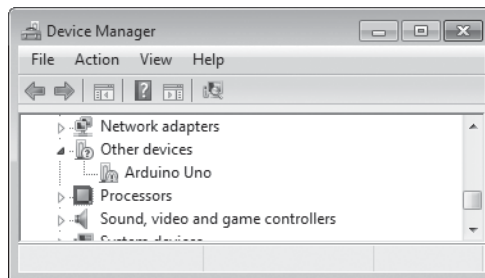

Figure 1-19: The Device Manager
2. Navigate to the Windows Control Panel. Open the Device Manager and scroll down until you see the Arduino, as shown in Figure 1-19.